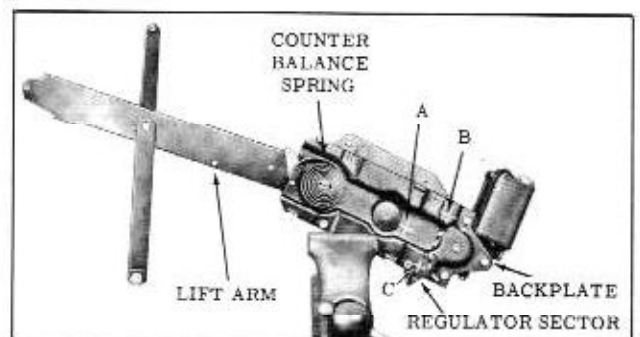

Fig. 17-37 Regulator and Motor Assembly (Electric)
1. Remove front door electric window regulator assembly from door as previously described and clamp it in a vise. (Fig. 17-37)
4. Remove motor attaching bolts and remove motor assembly from regulator. (Fig. 17-37)